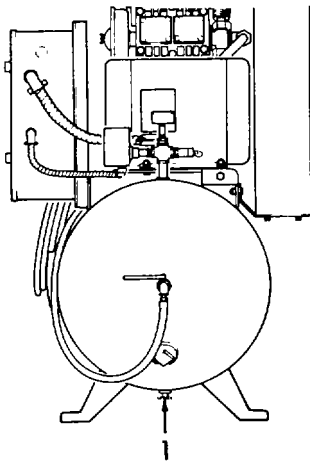

Figure 2-4. Air Tank Draining.
- a. Refer to Figure 2-4. Open the drain cock (1) and allow all moisture to drain from air receiver tank.
- b. Close the drain cock (1).
- c. Refer to Figure 2-4. Open the draincock (1) and allow all moisture to drain from tank.
- d. Close the draincock (1).